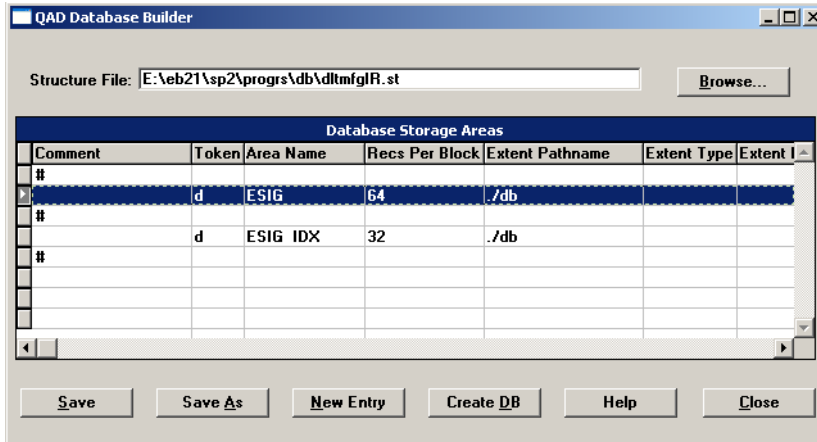

Fig. 3
- 4 Tab to or select the first storage area listed. In Figure 3, the first area is selected, and is named ESIG. Double-click or press Enter to open the storage area definition.